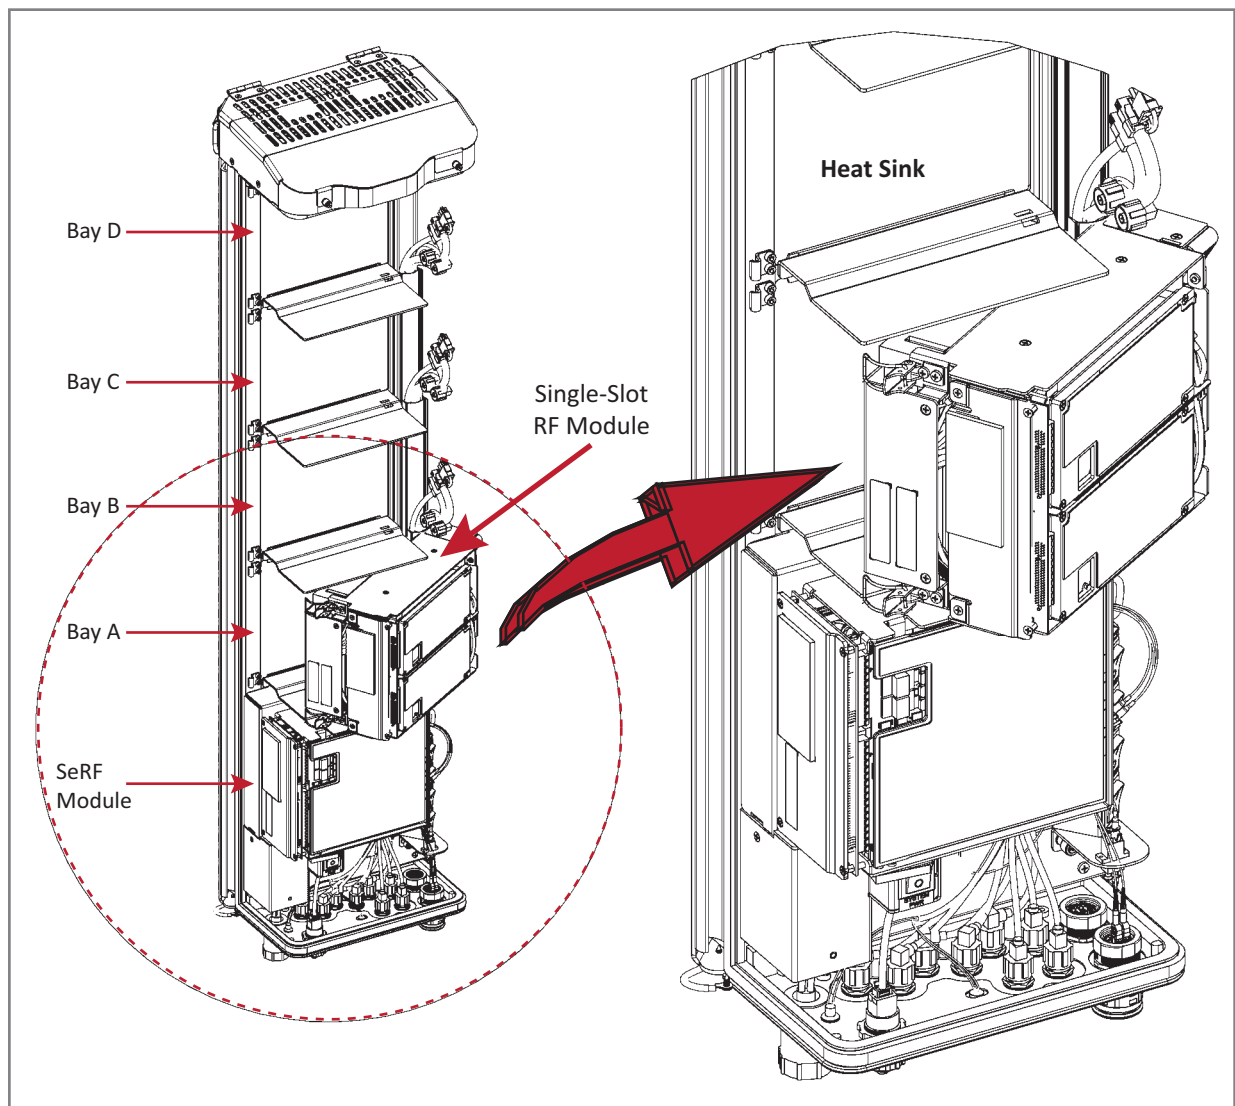

Figure 21. Installing a Single-Bay RF Module
- Single-Bay RF Module: Figure 21 on page 86